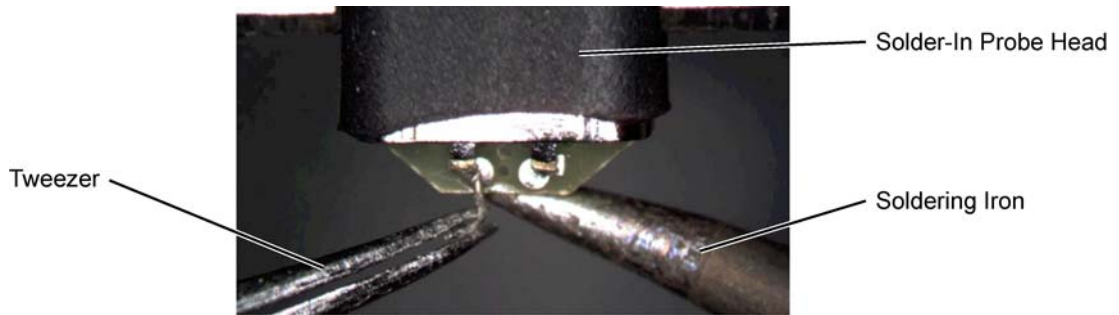

Figure 59 Removing the Old Wire
- 2 As shown in Figure 59, remove the old wires with tweezers while re-flowing the solder from the underside of the probe.